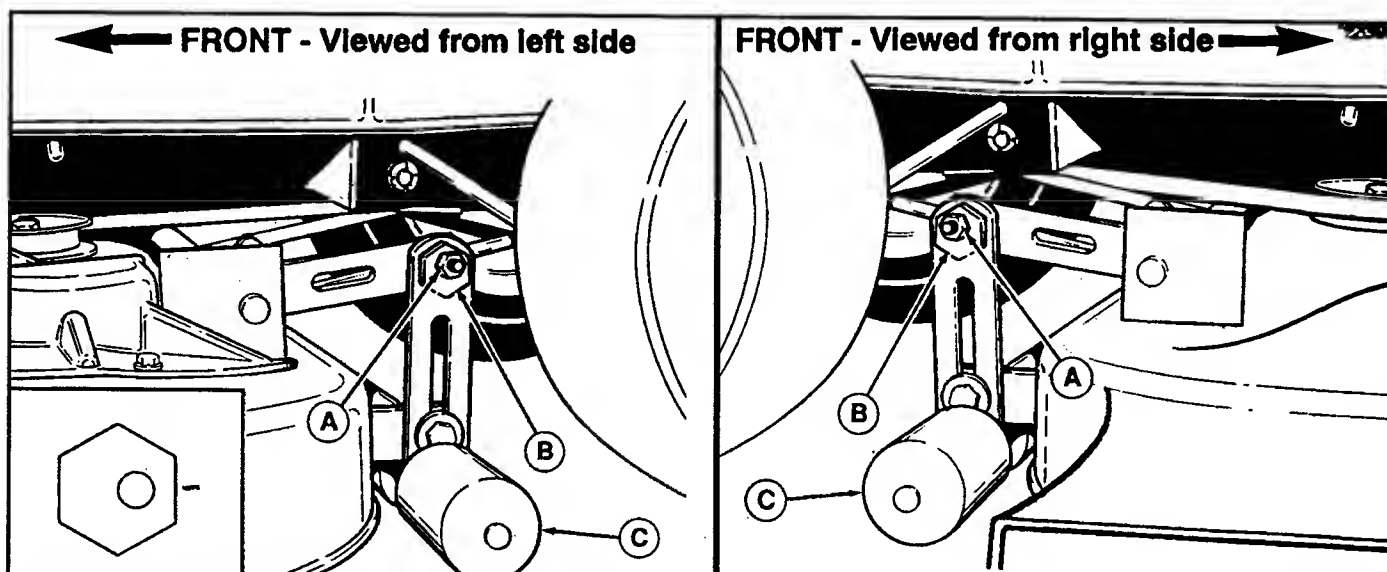

Figure 31. Leveling The Mower Side-to-Side
5. Make sure rear rollers (C, figure 31) are on the ground. If not, refer to Transport Height Adjustment.
6. See figure 31. On left side of mower, make sure eccentric nut is in correct position as shown. Loosen outside nut (A) and rotate eccentric nut (B) so that flat side with hole closest to it is towards the rear. Tighten outside nut (A) while holding eccentric nut (B).
7. On right side of mower, loosen outside nut (A). Turn